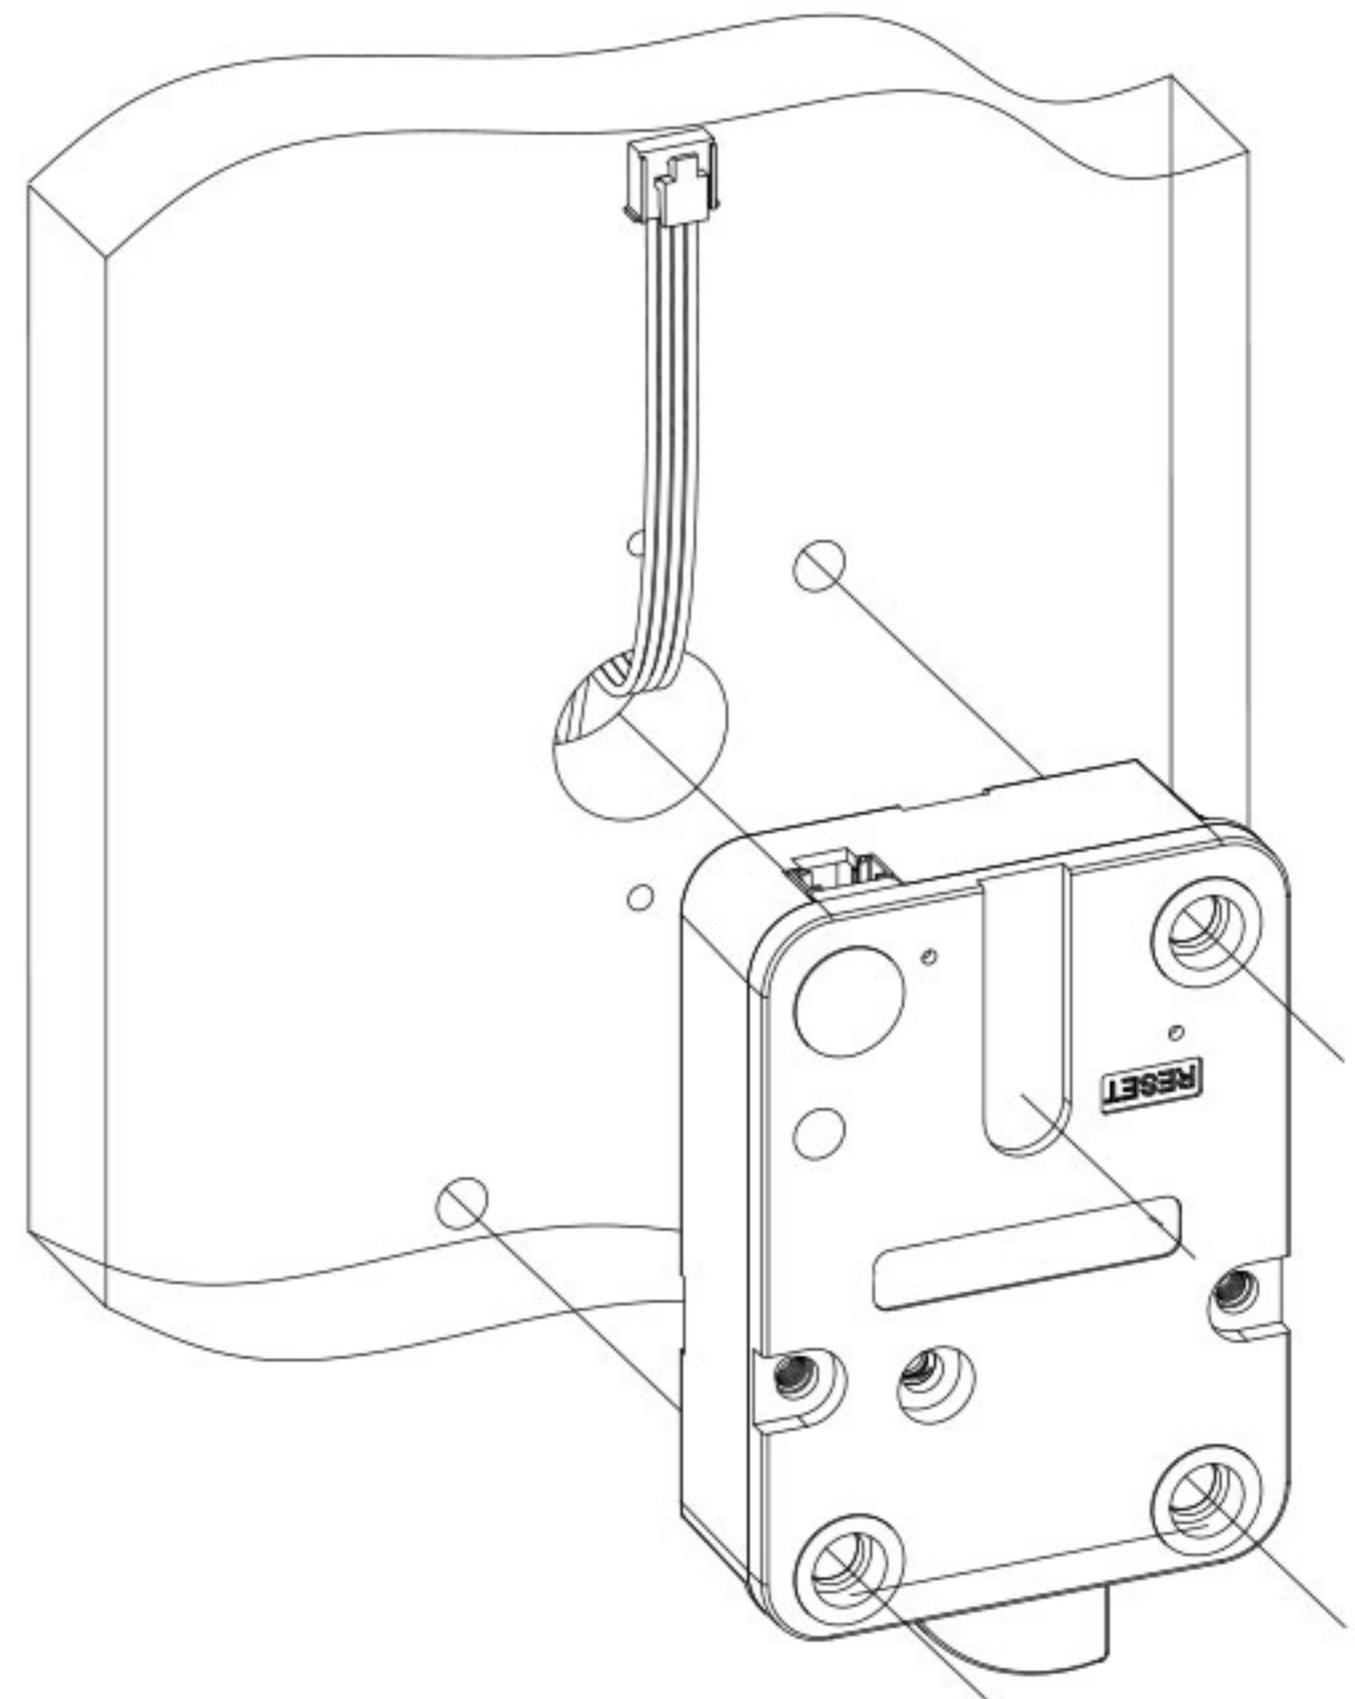

Fig. 11
1. Drill and tap three mounting holes for US 1/4"-20 or M6 on the safe's mounting plate. (Fig. 11)